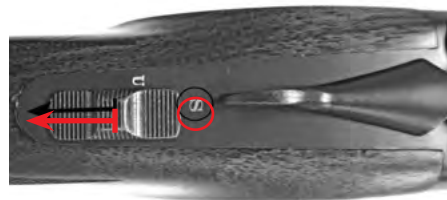
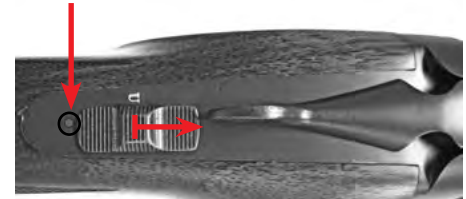

FIGURE 1
FIGURE 2
THE SAFEST WAY TO CARRY THIS SHOTGUN IS WITH NO SHELLS IN THE CHAMBER. IF YOU FEEL THAT YOU MUST CARRY THE SHOTGUN WITH SHELLS IN THE CHAMBERS, THEN THE SAFETY MUST BE ON SAFE (SEE FIGURE 1) OR THE ACTION SHOULD BE OPENED. WHEN YOU ARE READY TO FIRE, THE SAFETY CAN QUICKLY BE MOVED TO THE FIRE POSITION (SEE FIGURE 2).
1. The SAFETY is in the FULL SAFE position when it has been moved fully rearward, exposing the engraved 'S' and covering the red dot (see FIGURE 1).
1. The SAFETY is in the SAFETY OFF – READY TO FIRE position when it has been moved fully forward, covering the engraved 'S' and exposing the red dot (see FIGURE 2).
The SAFETY on your shotgun has a dual function. In the FULL SAFE position (fully rearward – see FIGURE 1) the SAFETY button can be moved to the left or the right to determine which barrel will fire first when the trigger is pulled.
2. Move the SAFETY to the FULL SAFE position (see FIGURE 1) and open the action to remove the misfired shell from the gun.
1. Before opening the action, make sure the muzzle is pointed in a safe direction and the SAFETY is in the FULL SAFE position (see FIGURE 1).